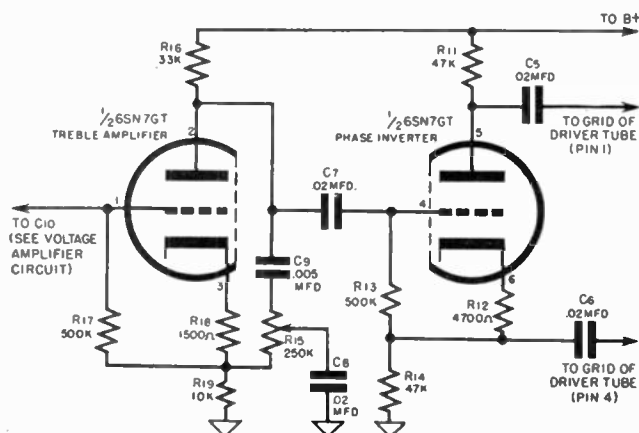

Fig. 5-26. Treble amplifier—phase inverter circuit.
e) Treble Amplifier-Phase Inverter. See Figure 5-26.